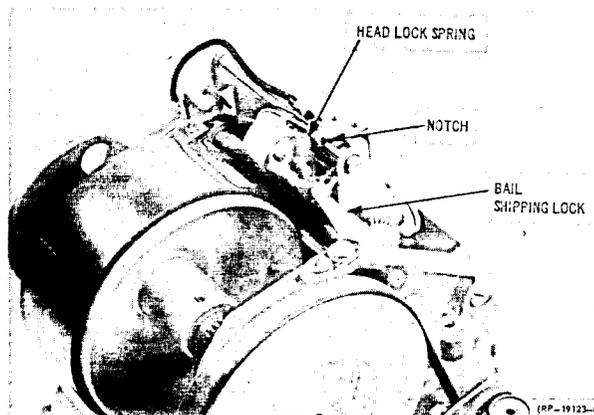

Figure 1 BAIL SHIPPING LOCK AND HEAD LOCK SPRING IN LOCKED POSITION.
1.35 Before connecting power to announcement set, be sure bail shipping lock and head lock springs are released. See Figure 1.